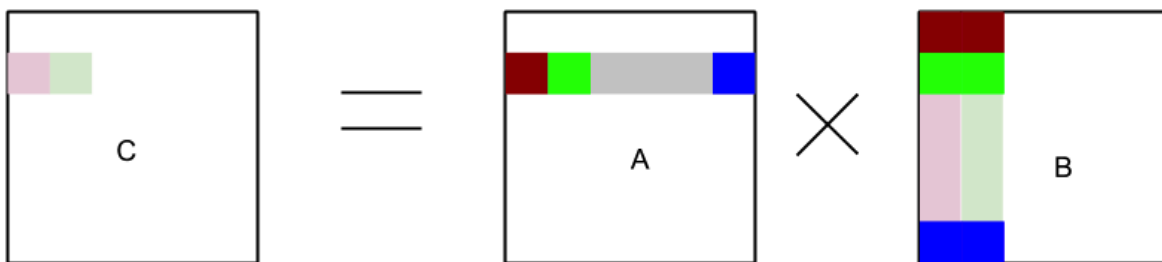

Figure 3 Schematic Graph of Tile buffering in matrix multiplication (TILE\_SZ = 2)
- Figure 3 simply shows how tile buffering works in matrix multiplication. Therefore, instead